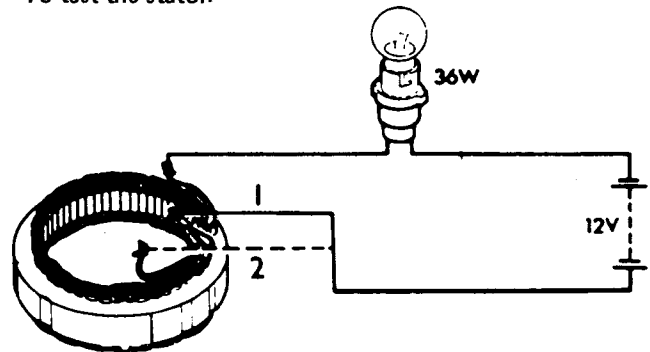

Fig O6.5
(1) Refer to Fig O6.5. Check continuity of stator windings between any pair of wires by connecting in series a 12-volt battery and test lamp of not less than 36 watts. Failure of the test lamp to light means that part of the stator winding is open circuit and a replacement stator must be fitted.